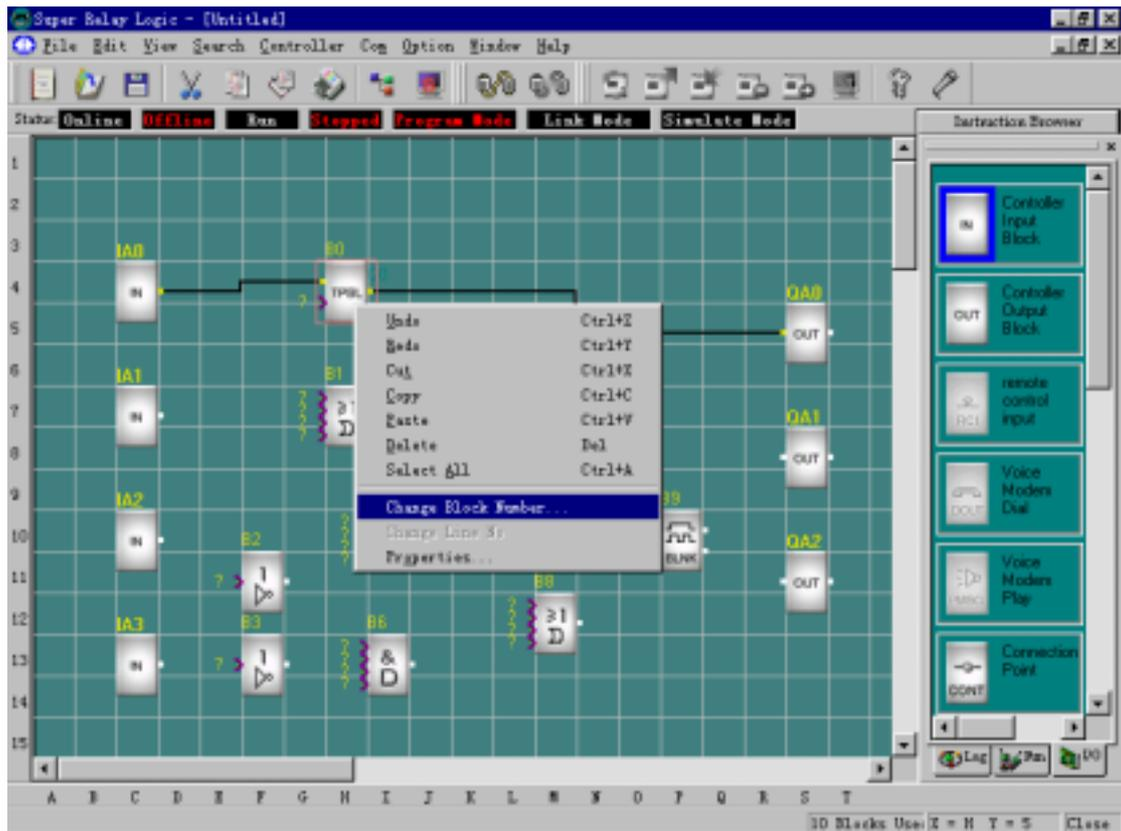
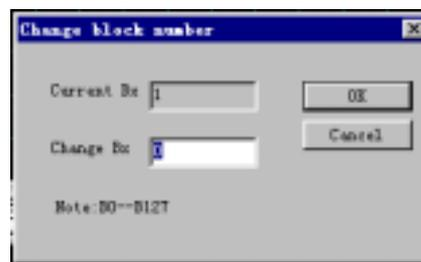

Fig 4.9 Modify Module Tab
Fig 4.10 Dialog Box of Modify Tab
4. Modify the tab of the module: press left button of the mouse above the module, dialog box as fig 4.9 apperances, select "Change Block Numer", dialog box as fig 4.10 will flip out, it's time to modify the tab of the module.